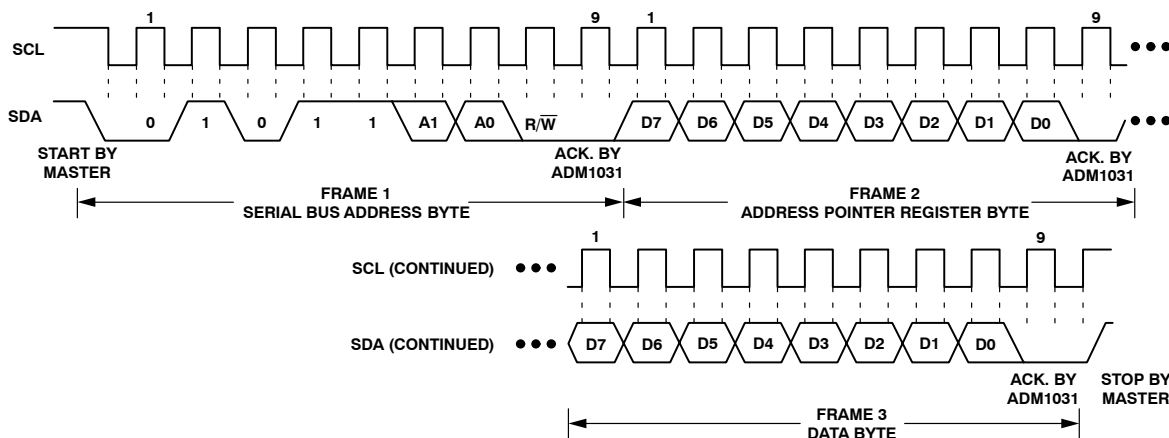
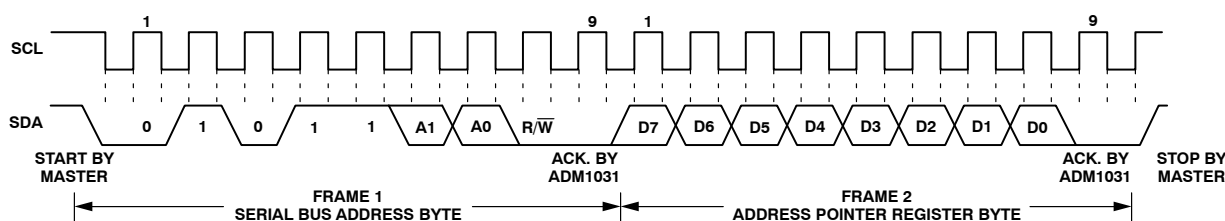
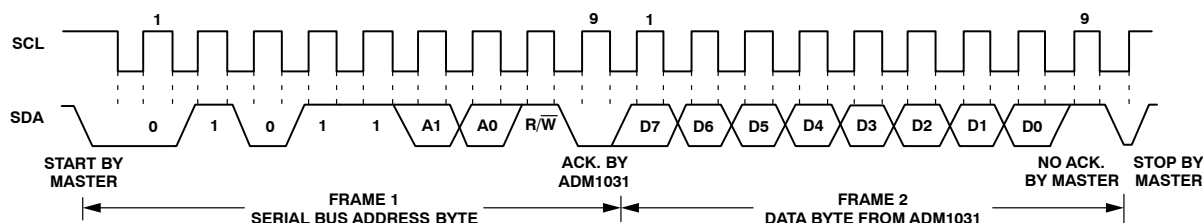

Figure 15. Writing a Register Address to the Address Pointer Register, then Writing Data to the Selected Register
Figure 16. Writing to the Address Pointer Register Only
Figure 17. Reading Data from a Previously Selected Register
This is illustrated in Figure 15. The device address is sent over the bus followed by R/W set to 0. This is followed by
- If the ADM1031's address pointer register value is unknown or not the desired value, it is first necessary to set it to the correct value before data can be read from the desired data register. This is done by performing a write to the ADM1031 as before, but only the data byte containing the register address is sent, as data is not to be written to the register. This is shown in Figure 16. A read operation is then performed consisting of the serial bus address, R/W bit set to 1, followed by the data byte read from the data register. This is shown in Figure 17.
- If the address pointer register is known to be already at the desired address, data can be read from the corresponding data register without first writing to the address pointer register, so Figure 16 can be omitted.
- In Figure 15, Figure 16, and Figure 17, the serial bus address is shown as the default value 01011(A1)(A0), where A1 and A0 are set by the three-state ADD pin.